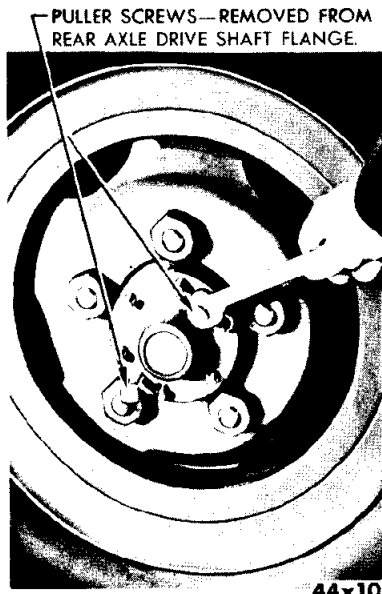

Fig. 34 — Removal of Drive Shaft Flange
- (3) Punch mark the drive flange and hub. The flange must be installed on the hub in the same position when the parts are re-assembled. Remove the nuts and lock washers and install puller screws in the two threaded holes of the flange (Fig. 34). Pull the flange from the hub studs by tightening the two screws.
- (4) Remove the hub and bearings.
- (5) Remove the attaching cap screws and pull